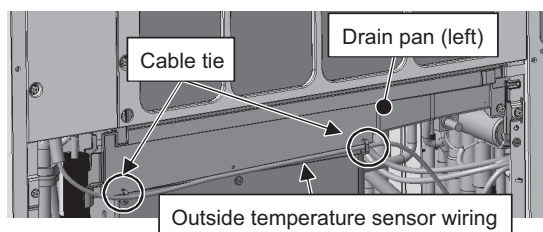

Figure 3
Unhook the pipe cover from the left drain pan. (See Figure 3.)
- (3) Remove the drain cover by unscrewing the screw and cutting the cable tie. (See Figures 3 and 4.)